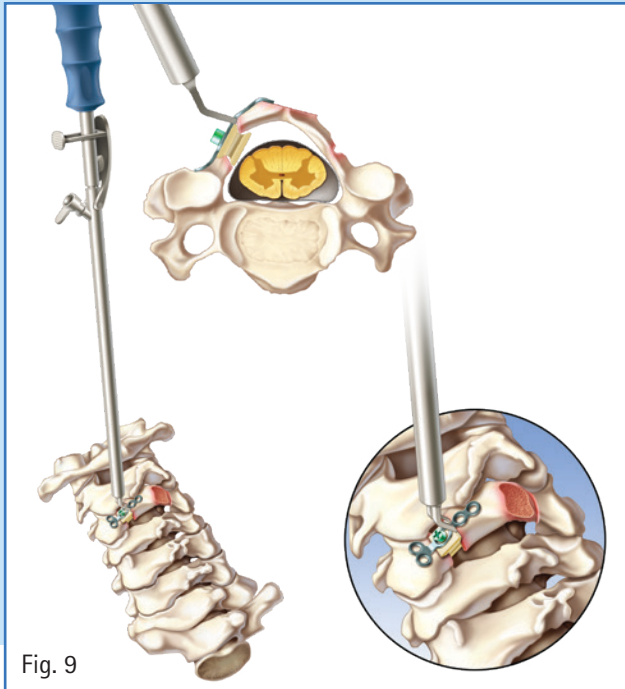

Fig. 9
- C. Utilizing the Plate or Allograft Holder, place the plate attached to the allograft into the laminar opening (Fig. 9).